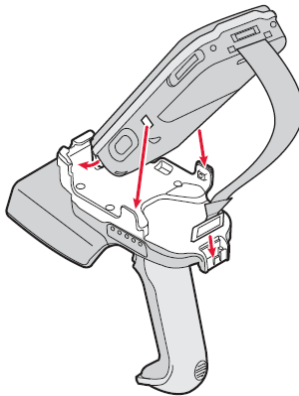

Figure 5. Connect CN70e mobile computer to scan handle
2. Ensure that the computer slides all the way into the IP30 TC2 scan handle. You will hear a click when you have the mobile computer fully inserted (Figure 5).